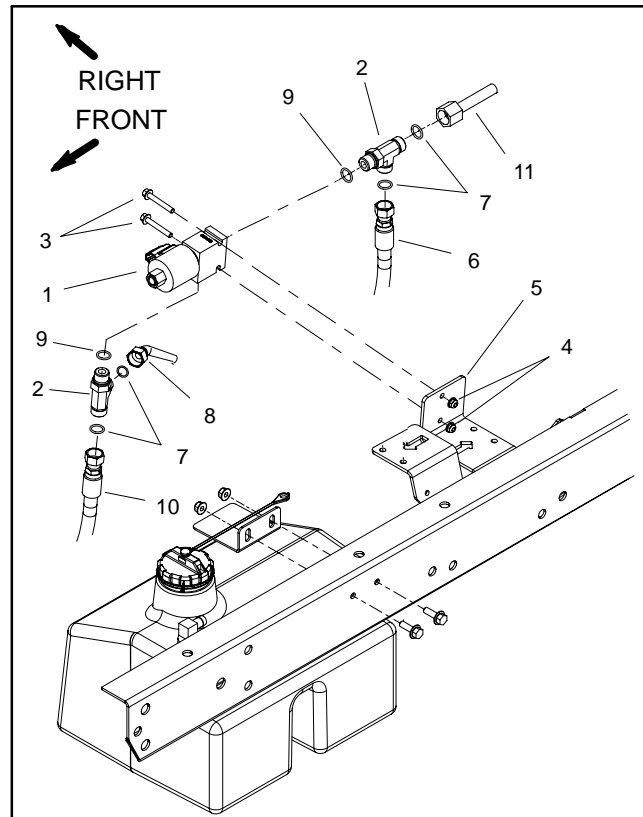

Figure 45
Removal (Fig. 45)
4. Remove manifold from vehicle using Figure 45 as a guide.
Installation (Fig. 45)
2. Install manifold to vehicle using Figure 45 as a guide.